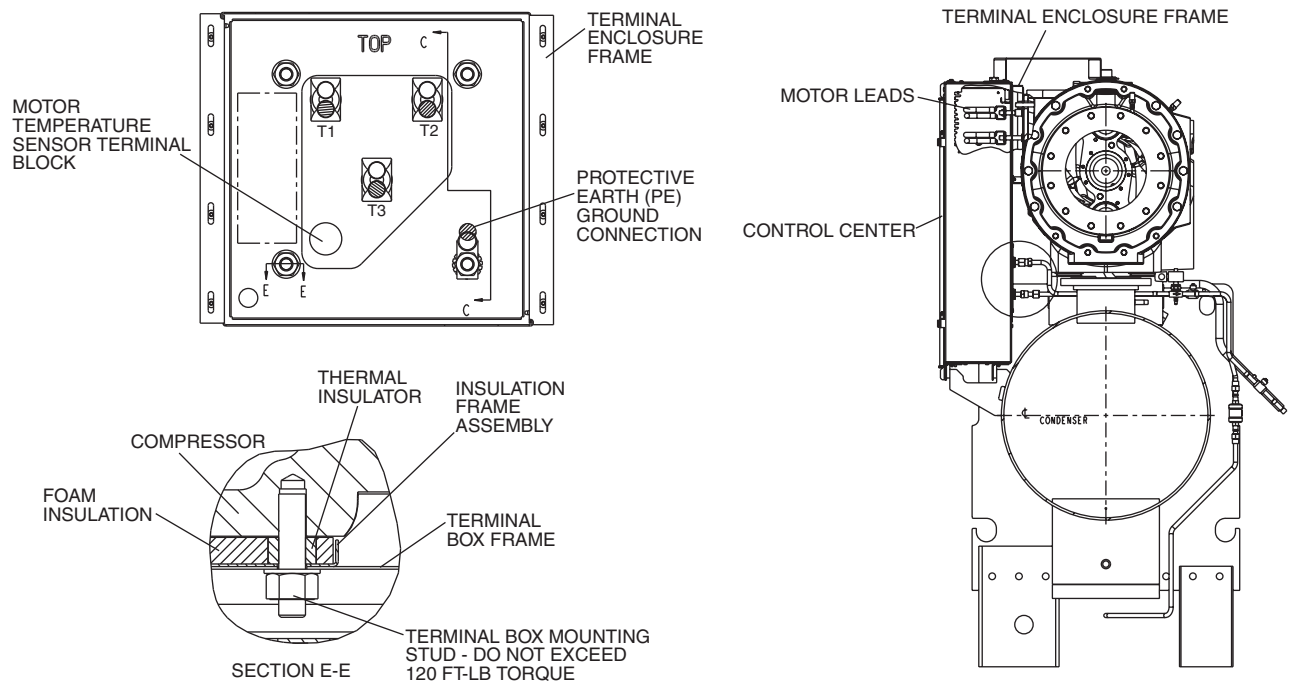

Fig. 27 — Motor Terminal Box
1. Install terminal box frame mounting studs into tapped holes using short threaded end (see section E-E in Fig. 27). Do not exceed 120 ft-lb (163 N-m).